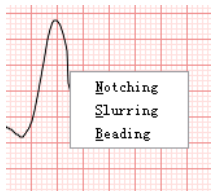
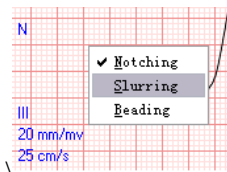

Figure 80
Figure 81
- The statistic table on the left-bottom corner of the screen displays the number of notching, slurring and beading in all 12 leads. Click the right key of the mouse on the waves, the shortcut menu will appear, then click corresponding items to modify wave attribute (As Figure 80). After modifying, your selection will be displayed at the left of waves (As Figure 81), and the number of attribute in the data statistics table will be changed.